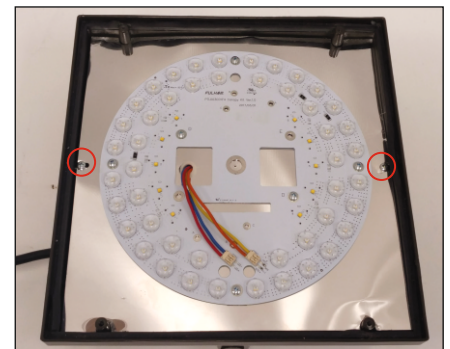

Figure 10
8. Place the original luminaire plate assembly onto the luminaire housing and secure using the two original screws. See figure 10.